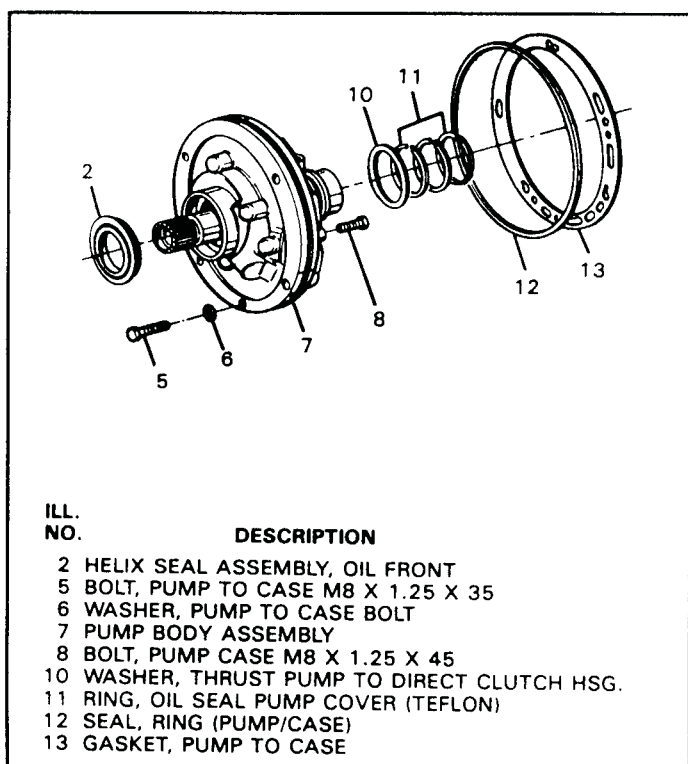

Figure 46
4. Remove the pump to case sealing ring, oil pump to case gasket, pump cover sealing rings, and discard all of them (See Figure 46).
5. Remove the oil pump to direct clutch drum thrust washer (See Figure 46).